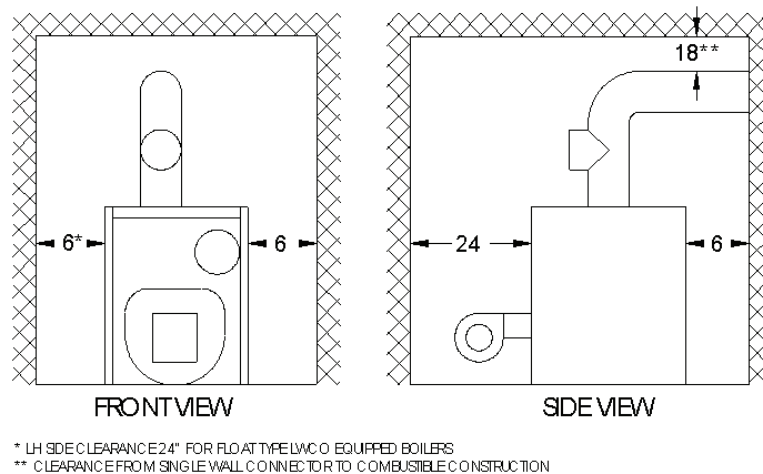

FIGURE 5.0: CLEARANCES
- Observe the minimum clearances shown below. Except as noted, these clearances apply to all combustible construction, as well as noncombustible walls, ceilings and doors. Also see Figure 5.0.
- 3) Confined Space - Provide two openings into the boiler room, one near the floor and one near the ceiling. The top edge of the upper opening must be within 12" of the ceiling and the bottom edge of the lower opening must be within 12" of the floor (Figure 5.0).